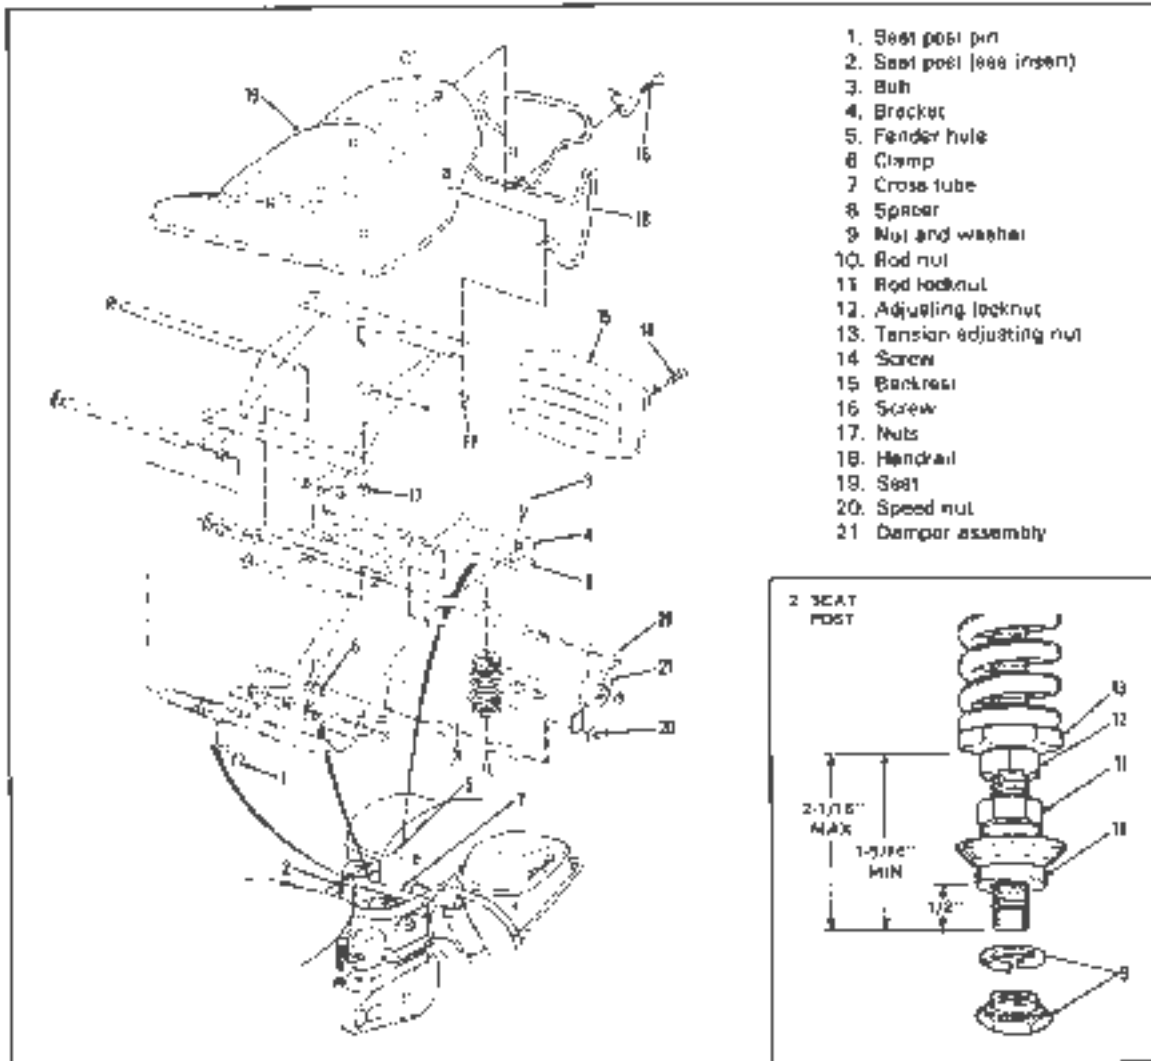

Figure 2-73. Comfort Flex Seat - Exploded View
### REMOVING AND INSTALLING SEAT ASSEMBLY (Figure 2-73)
Referring to Figure 2-73, pull out pin (11) from seat post (2). Lift seat up into raised position. Remove two bolts (3), nuts and washers which attach bracket (4) to fender through holes (5). Remove two clamps (6) which attach seat to frame cross tube (7). The seat will now be freed and can be lifted off the motorcycle.
To reinstall seat assembly, reverse the procedure given above for removal while observing for correct clearances. The seat post height should be  $3 \pm 1/16$  in. from seat post frame to centerline of seat pin hole. With upper shaft (5, Figure 2-72) in fifth or rear most slot, the seat should compress fully to its stops and the gas tank clearance must be 1-1/2 in. minimum and there should be adequate clearance between seat and fender, luggage carriers with Tour-Pak and saddlebags. If seat post height requires adjustment, proceed as follows. Referring to Figure 2-73, remove nut and washer (9) from bottom of seat post and remove seat post from motorcycle. Adjust rod nut (10) to obtain 1-1/2 in. dimension shown in figure. This dimension should give the seat the correct dimension of  $3 \pm 1/16$  in. Note that adjusting locknut (12) can be removed completely from the assembly and not used at all if necessary to achieve the  $3 \pm 1/16$  in. dimension.
After removal from motorcycle, the seat assembly is partially disassembled by removing items 14 through 20 in the order shown in Figure 2-73. Reassemble in reverse order.